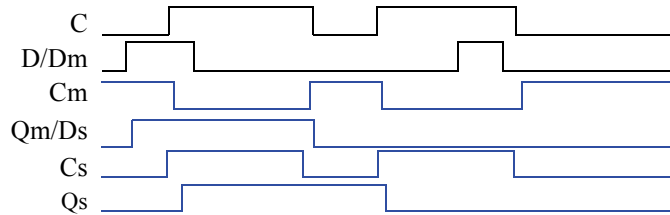

Figure 3.97
- 3.12 Trace the behavior of an edge-triggered D flip-flop using a master-servant design (see Figure 3.25) for the input pattern in Figure 3.97. Assume each internal latch initially stores a 0. Complete the timing diagram, assuming logic gates have a tiny but non-zero delay.